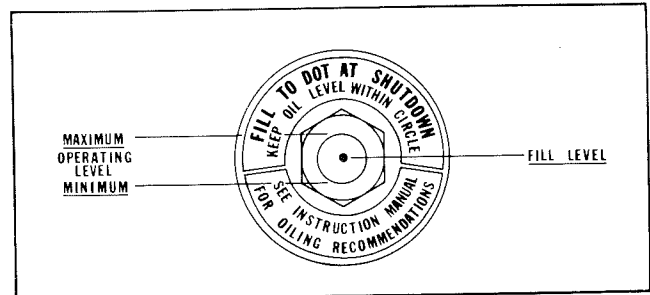

Figure 3 — Oil Level Gauge
Oil sumps on *each* end of the blower are filled by removing top plugs, Item (22), and filling until oil reaches the *middle* of the oil level gauge, Item (45). See Figure 3.